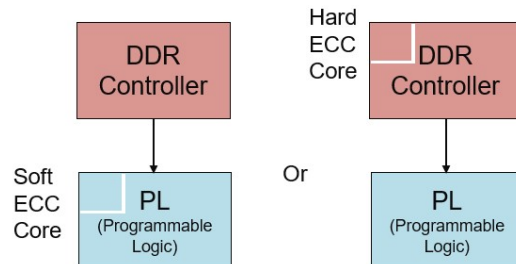

Fig. 12. Optimized hardened cores can save a little
DFX allows you to change your Programmable Logic (PL) design. This can be beneficial if you can (1) fit into a smaller part and benefit from the lower static power, or (2) swap a design to a lower power “standby design” (e.g. less resolution), or (3) eliminate an entire module by repurposing an existing module. The innovation with DFX is the ability to switch out a portion of the design while the rest of the design continues to run (Fig 12).